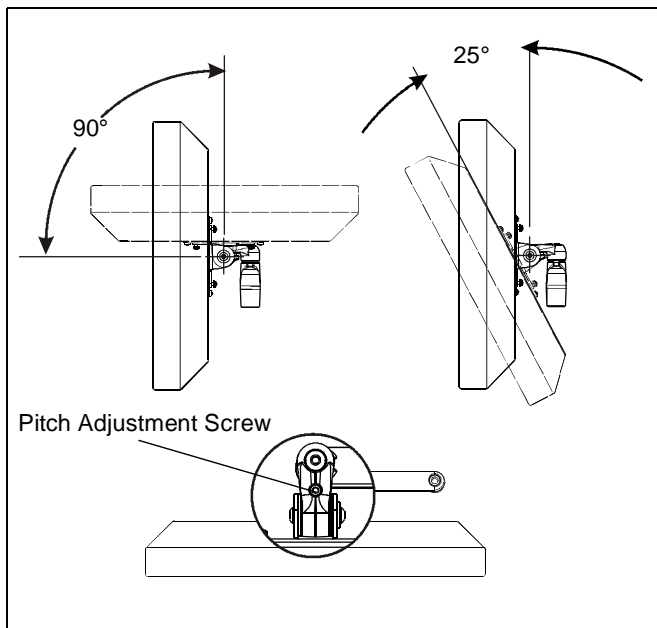

Figure 6: KSA-1006 Pitch Adjustments
2. Turn pitch adjustment nut clockwise to increase tension and counter-clockwise to decrease tension. (See Figure 6)